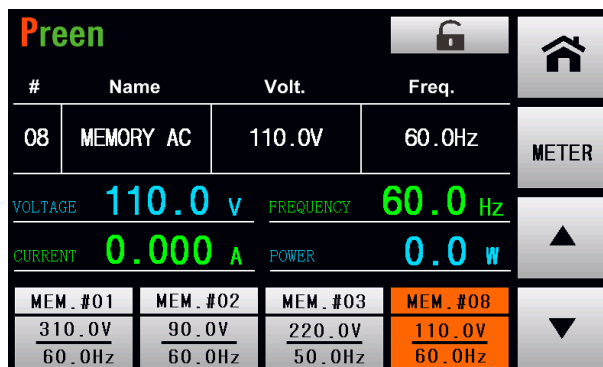

Figure 4.7 Output page of MEMORY feature
- 2) : The forth shortcut is user-assigned; any of the 50 Memory Sets can be selected, such as MEM.#08 demonstrated in Figure 4.7. The orange background indicates that the set is currently outputting. Press ▼ to switch to the next Memory Set, such as MEM.#09; press ▲ to the previous Memory Set, such as MEM.#07.